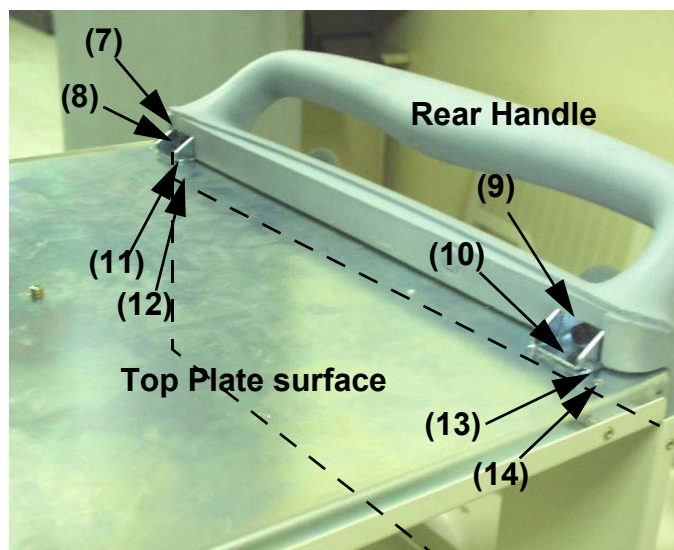

Figure 8-72 Removing the Rear Handle
- 7.) Unscrew four (4) screws (7-10) above top plate surface on the Rear Handle.
8.) Unscrew four (4) screws (11-14) below top plate surface on the Rear Handle. Refer to Figure 8-72 on page 8-55 .